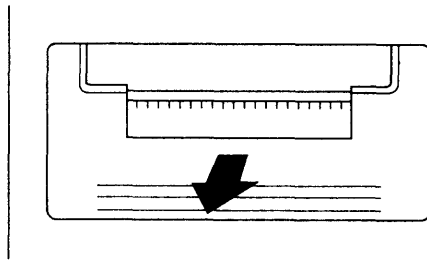

Fig. 2-4. Removing the printer cover
- ② Push the printer cover in the direction of the arrow, as shown in Fig. 2-4, and remove it.